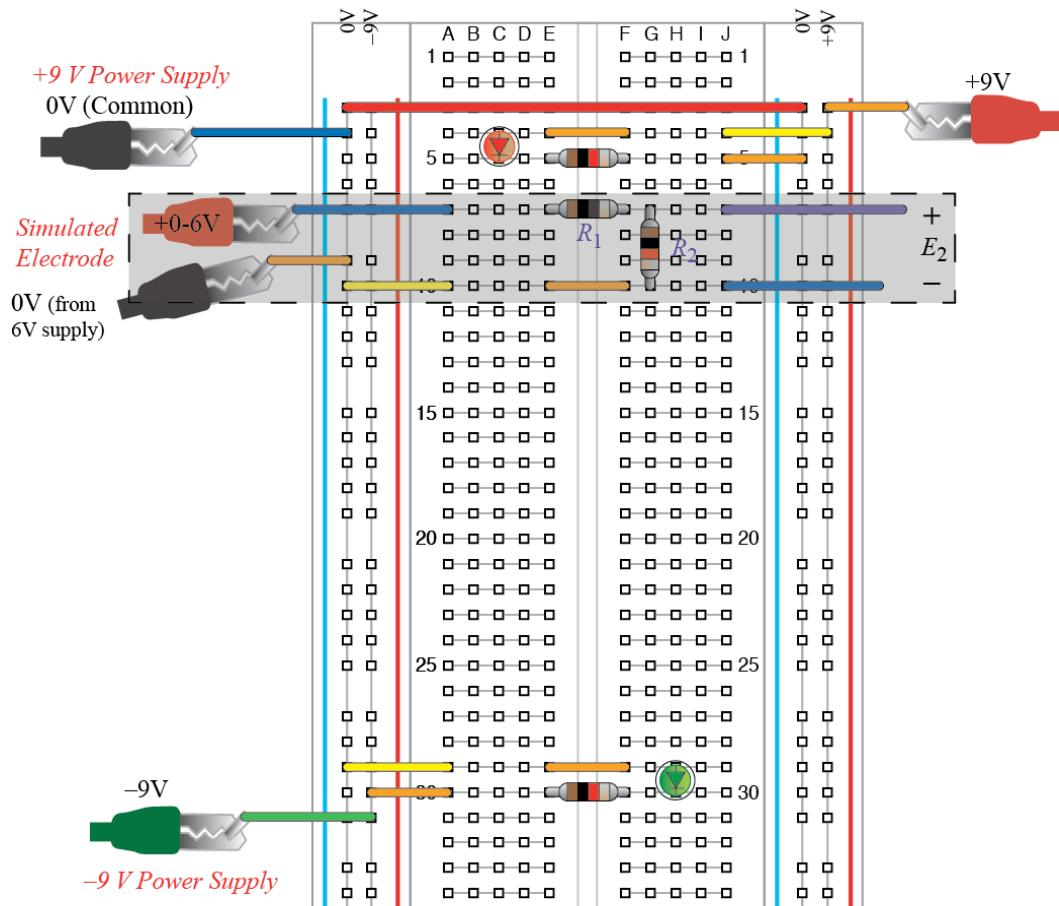

Figure 5. Circuit model of an electrode driving differential amplifier: breadboard layout.
1) Build the circuit shown in Fig. 5. In place of the electrode, use the 6V power supply, which is part of the same power supply used to power the LED's. (The 6V power supply is the third of three voltage sources in the power supply. To see its value it, press the 6V button on the front of the power supply. Use the gray knob to adjust its value. The 6V outputs are the two leftmost banana plugs on the front panel of the power supply.) Use long wires coming off the breadboard and banana-to-alligator clips to connect to the 6V power supply.